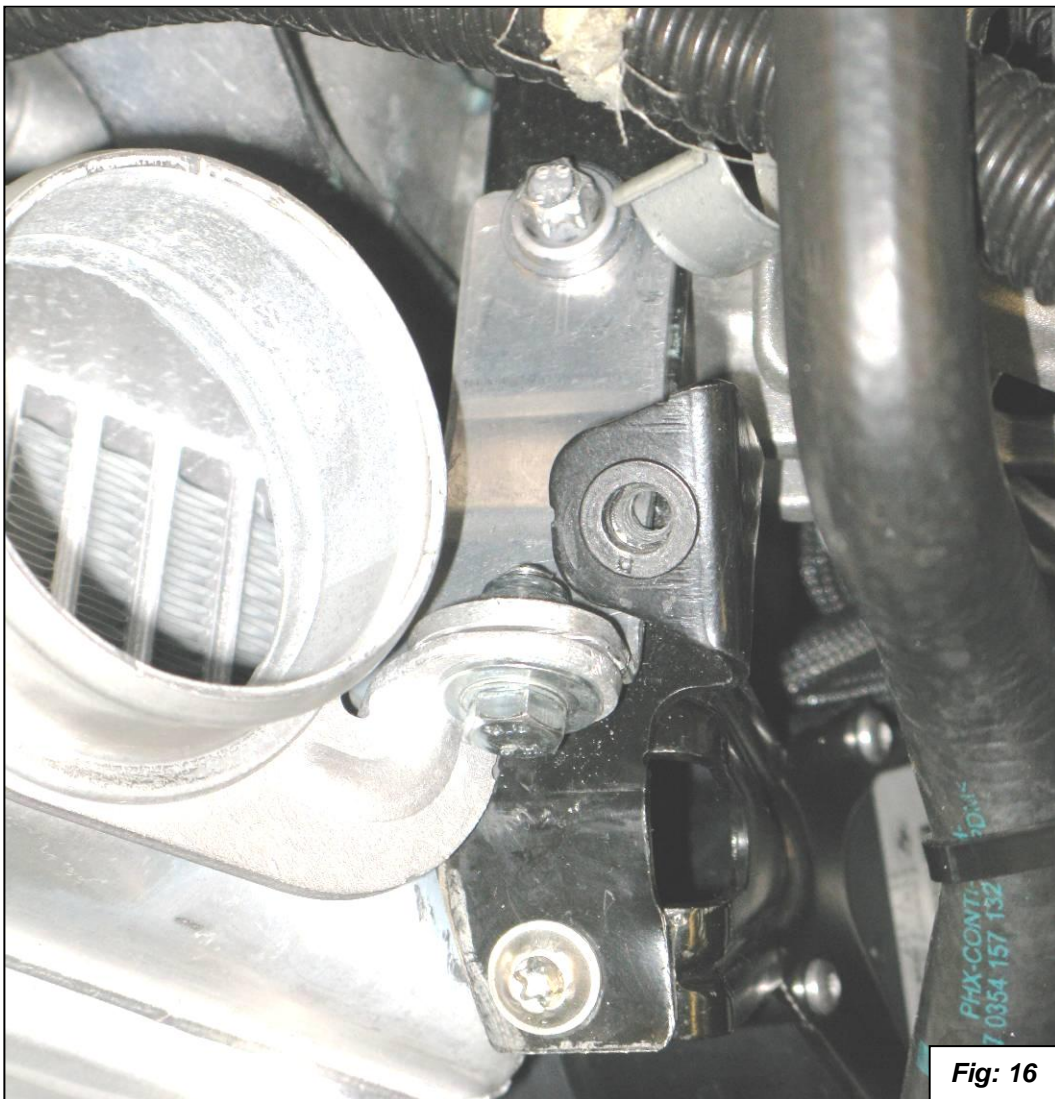

Fig: 16
14. Install the new upper intercooler mounts as shown in figures 16 and 17. Torque the alternator bolts to 21Nm. Use the supplied 6mm bolts, washers and nylok nuts to attach the intercoolers to the brackets.